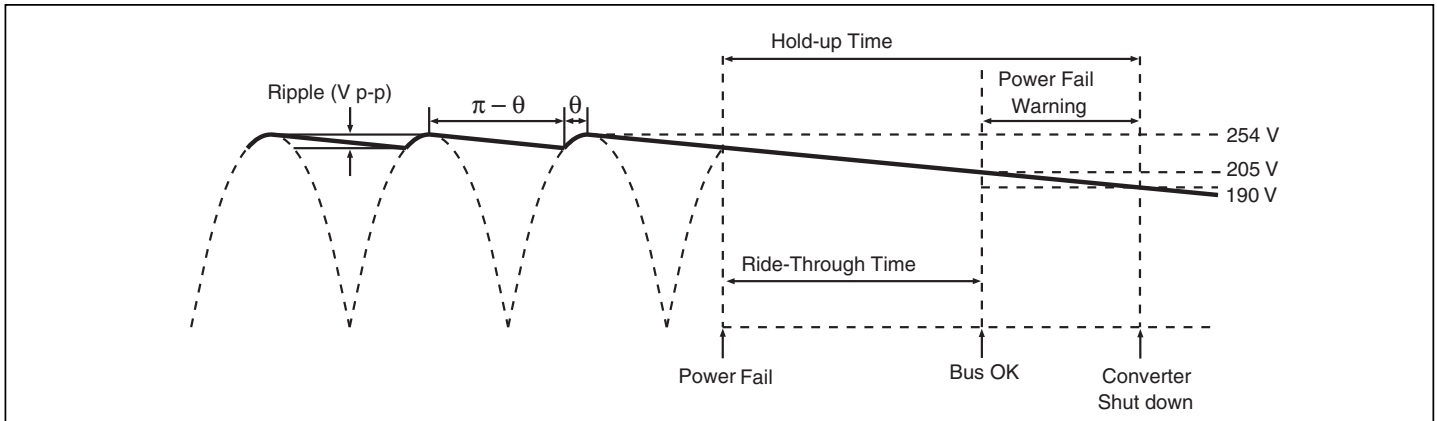
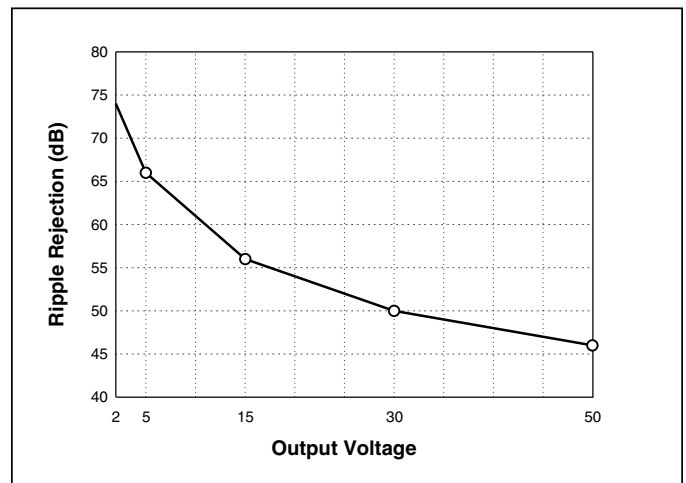

Figure 13 — Hold-up time
Figure 17 — Converter ripple rejection vs. output voltage (typical)
**Hold-up Capacitors.** Hold-up capacitor values should be determined according to output bus voltage ripple, power fail hold-up time, and ride-through time (see Fig. 13). Many applications require the power supply to maintain output regulation during a momentary power failure of specified duration, i.e., the converters must hold-up or ride-through such an event while maintaining undisturbed output voltage regulation. Similarly, many of these same systems require notification of an impending power failure in order to allow time to perform an orderly shut down.
The power fail warning time ( $\Delta t$ ) is defined as the interval between B OK and converter shut down (EN) as illustrated in Fig. 13. The Bus-OK and Enable thresholds are 205 V and 190 V, respectively. A simplified relationship between power fail warning time, operating power, and bus capacitance is obtained by inserting these constants:
For example, a converter whose output is 15 V and nominal input is 300 V will provide approximately 56 dB ripple rejection, i.e., 10 V p-p of input ripple will produce 15 mV p-p of output ripple (see Fig. 17). Equation 3 is again used to determine the required capacitance. In this case,  $V_1$  and  $V_2$  are the instantaneous values of bus voltage at the peaks and valleys (see Fig. 13) of the ripple, respectively. The capacitors must hold-up the bus voltage for the time interval ( $\Delta t$ ) between peaks of the rectified line as given by:
**Converter.** Figure 17 is used to determine the approximate ripple rejection of the DC-DC converter and indicates a ripple rejection of approximately 60 dB for a 12 V output. Since the ripple on the bus voltage is 12 Vac and the ripple rejection of the converter is 60 dB, the output ripple of the converter due to ripple on its input (primarily 120 Hz) will be 12 mV p-p.